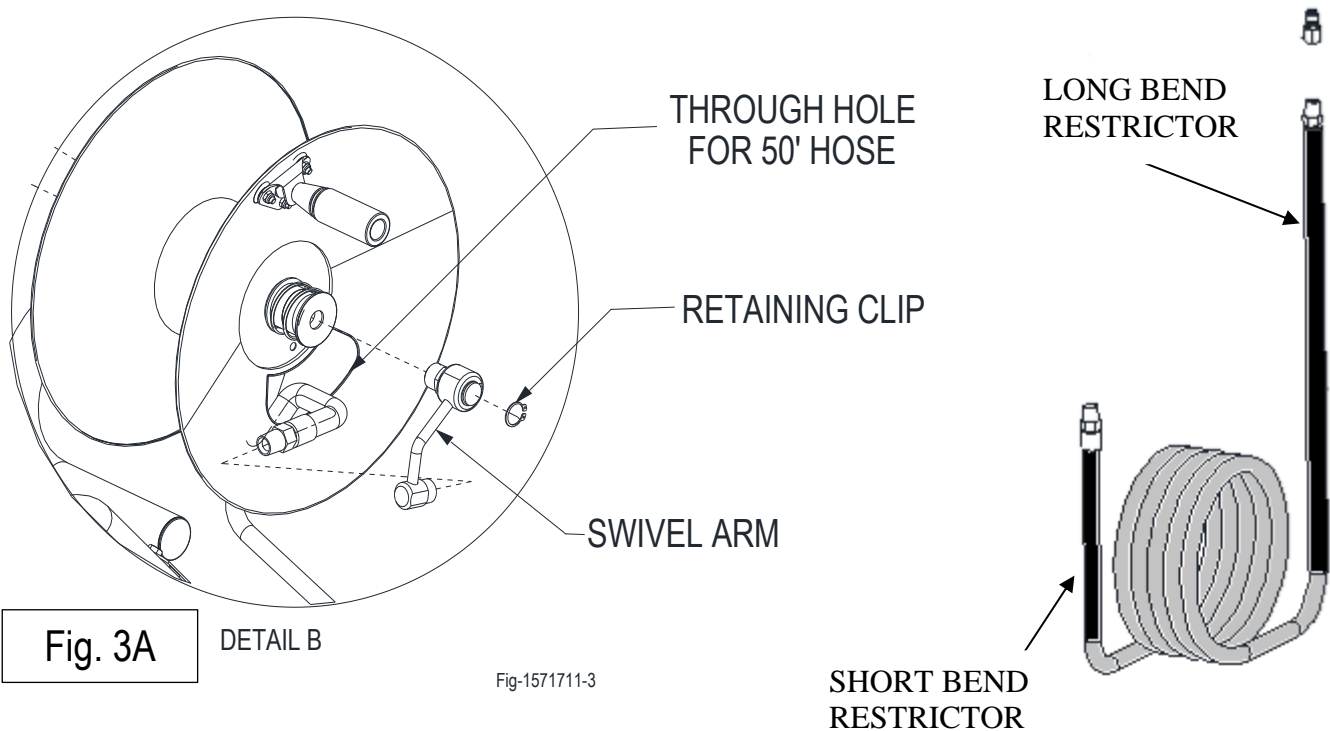

Fig. 3A
- A.) Remove swivel arm from hose reel by removing retaining clip. See Fig. 3A.